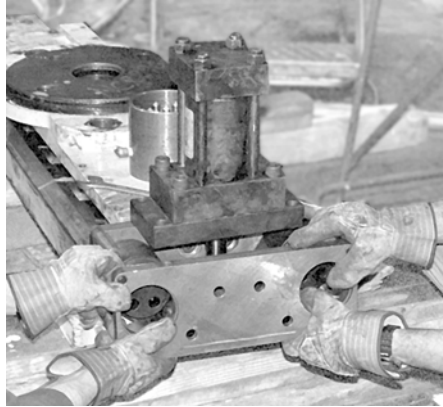

Figure 5-46. Installation/Removal of Lever Arm Cover Plate
14. Remove the four ½"-13NC cap screws (8) from the lever arm cover (11). Remove the cover (see Figure 5-46). The four spacers (7) do not need to be removed unless they are damaged.
4. Install and bolt the lever arm cover (11) to the lever arm cover (11) located on the door. Use four ½”-13NC cap screws (8) to bolt this cover (see Figure 5-46 on page 5-58).